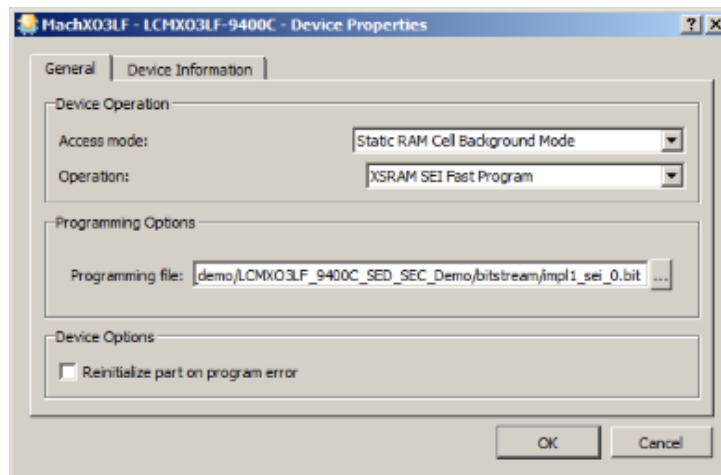

Figure 6.8. Setting MachX03 Device Properties
- Set device properties as shown in Figure 6.8. In the Device Properties dialog box, select **Static RAM Cell Background Mode** in Access mode and **XSRAM SEI Fast Program** in Operation. Select the SEI bitstream file `\bitstream\impl1_sei_0.bit` in Programming file. Click **OK**.